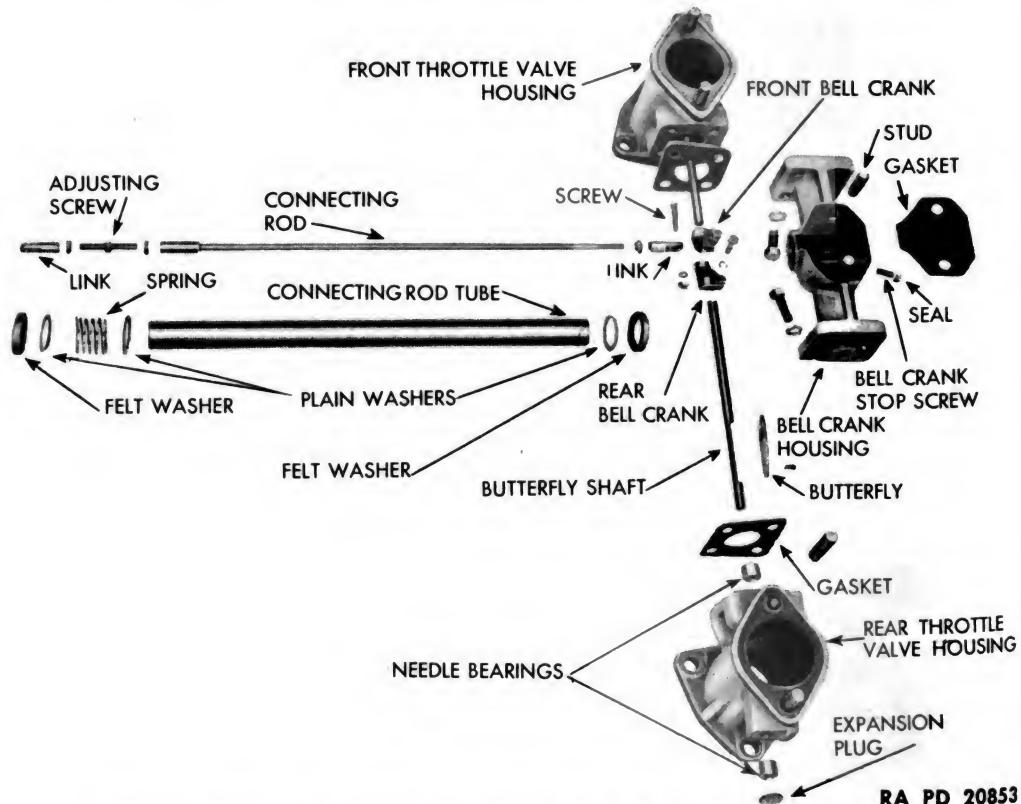

Figure 123 — Dual Throttle Valve Box Assembly Components
(1) REMOVE CONNECTING ROD TUBE (fig. 123). Pull connecting rod tube from bell crank housing and remove. Remove felt washers, plain washers, and spring from tube.
(2) REMOVE THROTTLE VALVE HOUSINGS (fig. 123). Loosen the locking cap screws in both bell cranks. Remove eight cap screws and lock washers attaching both throttle valve housings to bell crank housing, and remove both throttle valve housings.
(3) REMOVE CONNECTING ROD AND BELL CRANKS (fig. 123). Remove nut, lock washer and screw attaching connecting rod link to bell cranks. Remove connecting rod and bell cranks from bell crank housing.
(4) REMOVE BUTTERFLY SHAFTS (fig. 123). Remove two
(5) REMOVE NEEDLE BEARINGS (fig. 123). It is necessary to destroy the needle bearings to remove them. They should, therefore, be removed only if they must be replaced.
(3) THROTTLE VALVE HOUSING (fig. 123). Drive needle bearing out, using a bent rod. Needle bearing will be destroyed in this operation. Carefully drive new needle bearing in. Make sure rollers are free when bearing is installed.
(1) **INSTALL BUTTERFLY SHAFTS** (fig. 123). Insert shafts through needle bearings in throttle valve housings. Install butterflies. This is done by dropping the butterflies in place, and tapping with a screwdriver until they are seated properly. Install two screws and lock washers attaching each butterfly.
(2) **INSTALL THROTTLE VALVE HOUSINGS** (fig. 123). Use new gaskets on throttle valve housings, and set them in place against ends of bell crank housing. Place bell cranks on ends of butterfly shafts in bell crank housing, but do not tighten them on shafts. Install four cap screws and lock washers attaching each throttle valve housing to bell crank housing.
(3) **INSTALL CONNECTING ROD AND BELL CRANKS** (fig. 123). Insert connecting rod through hole in bell crank housing. After lining up bell cranks, install screw, nut, and lock washer attaching bell cranks to connecting rod link. Turn bell cranks so that screw attaching bell cranks to rod link is away from connecting rod hole in body. Turn bell cranks until they are approximately 33 degrees from perpendicular with valves closed. Lock the bell cranks in position with cap screws and lock washers.
(4) **INSTALL CONNECTING ROD TUBE** (fig. 123). Install plain washers, felt washers, and spring on connecting rod tube in the order shown in figure 123. Place tube over connecting rod and into bell crank housing.